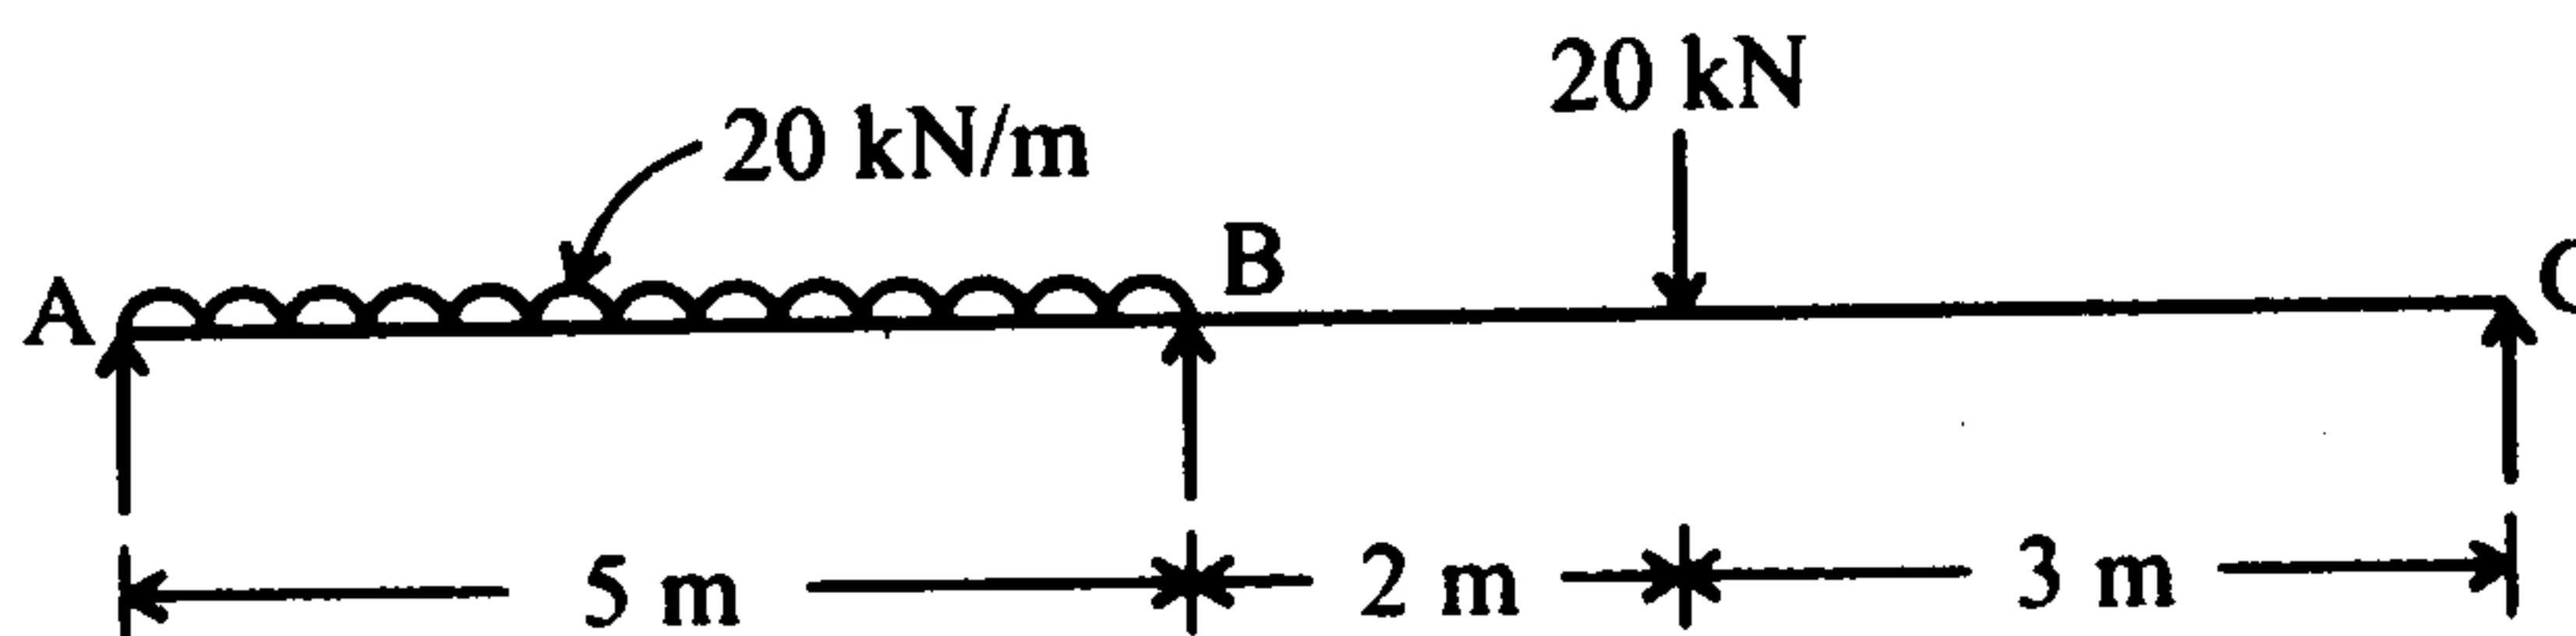

Fig Q. 15 (a)
15. (a) Analyse the continuous beam given in Fig. Q. 15 (a) by moment distribution method.